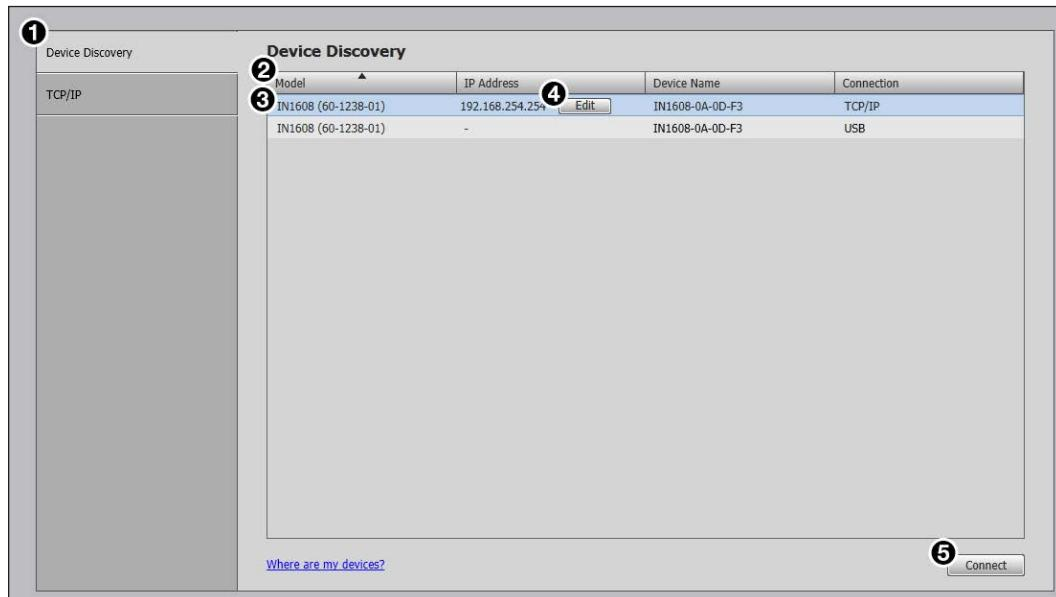

Figure 36. Device Discovery Panel
1. Click the **Device Discovery** tab (see figure 36, ①).
2. Click the desired column heading (②) to sort the category in ascending or descending order.